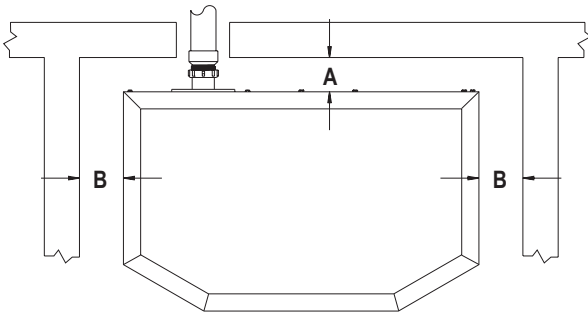

Figure 7
2. Provide adequate clearances around the product for servicing and ensure there are no obstructions to the combustion air intake situated at the back of the heater. Refer to Page 15, Figures 7 and 11.
Note: On Single Wall flue pipe installations (imitation zero clearance fireplace) a minimum of 2" (50.8cm) clearance must be provided at the rear of the heater to enable the heater to get sufficient combustion air to the air inlet located at the rear of heater. Refer to installation instructions on page 15, Figures 7 and 9.